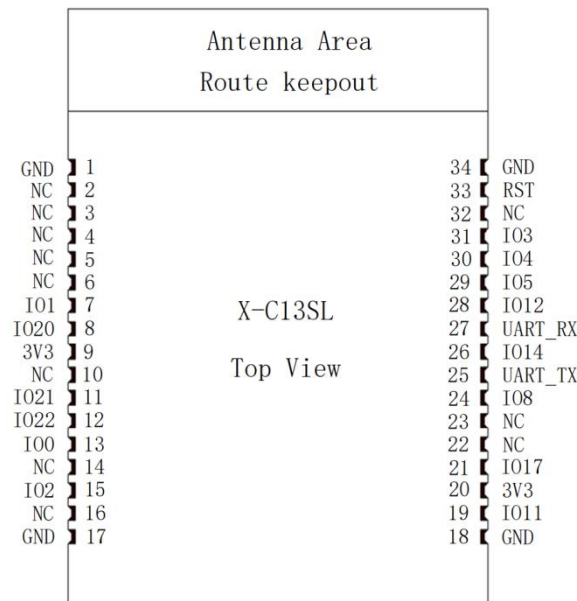

Figure 2. X-C13SL Pin Layout (Top View)
- X-C13SL comes with a on-board PCB antenna, please refer to Figure 2.